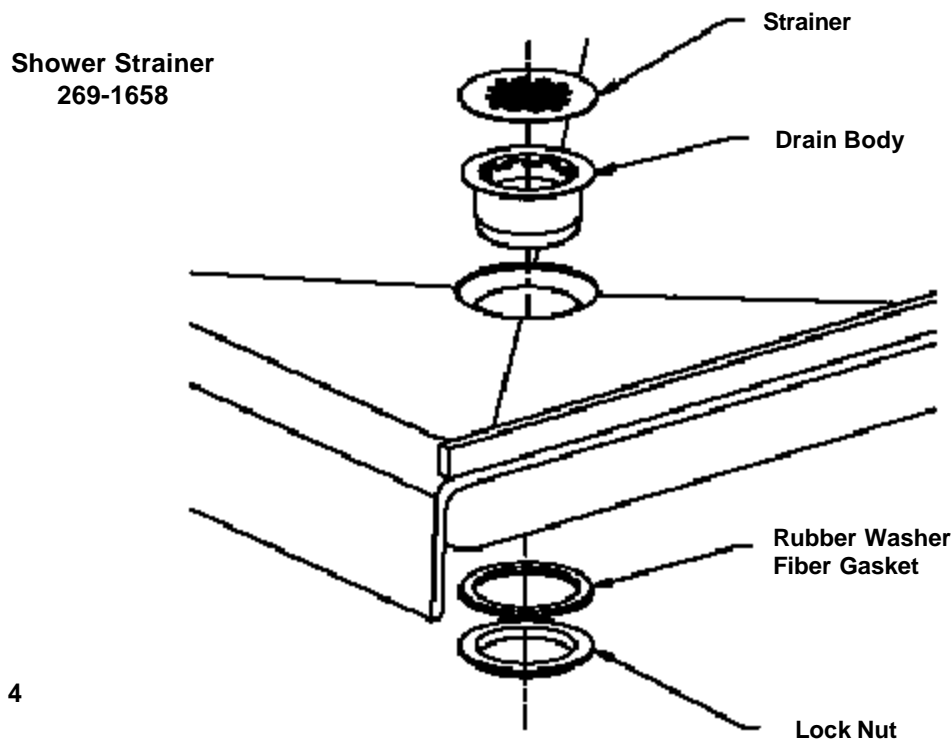

Figure 4
1. After the waste pipe is installed, assemble the drain assembly to the shower pan as shown in Figure 4.